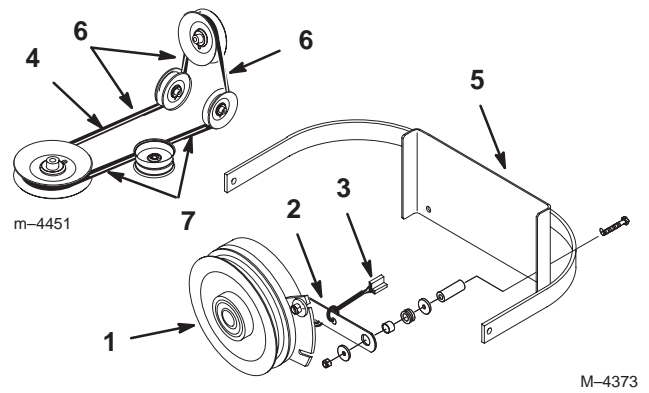

Figure 67
- Remove the clutch retaining strap from machine frame and unplug clutch terminal from wire harness (Fig. 67).
- Remove PTO drive belt from rear idler arm and front idler pulley assembly. Remove the PTO drive belt (Fig. 67).
- Place new drive belt over clutch, around rear idler pulley, installed into rear idler arm assembly, installed into front idler pulley assembly and onto top center pulley (Fig. 67).
Important Check the amount of twist in belt between pulleys. Make sure it is only what is specified in figure 67.
- Install clutch retaining strap and plug clutch terminal into main wire harness (Fig. 67).